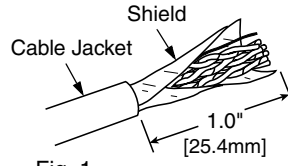

Fig. 1
- Strip back the cable jacket from the shield and cut away that portion of the cable jacket. Do not cut the shield. The shielded conductors should extend beyond the cable jacket 1.0" [25.4 mm]. (See Fig. 1).